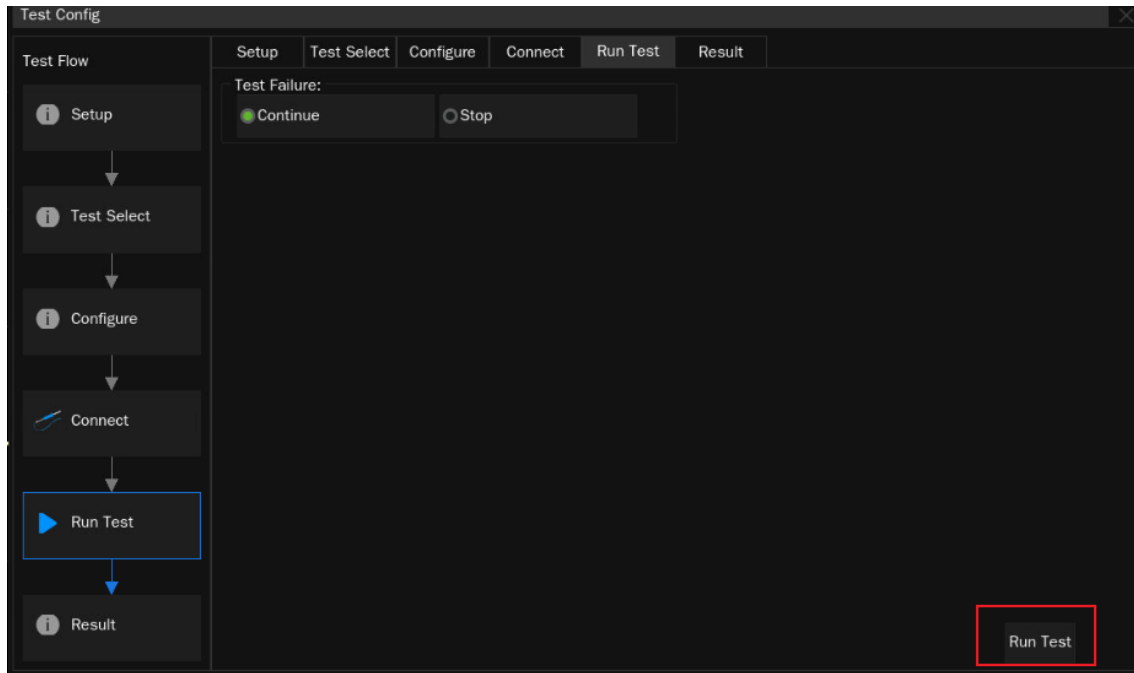

Figure 4-18 Run Test Window
- **Run test:** The Run Test window is shown in Figure 4-18. Both **Continue** and **Stop** options are supported when meets test failures.